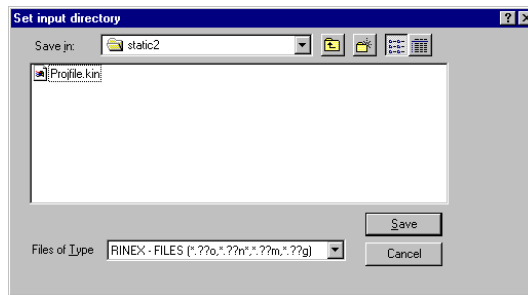

Figure 7.3: Set Input Directory Dialog Box
1. In the **RINEX to Ashtech** tab, click **Input dir** to open the **Set Input Directory** dialog box (Figure 7.3).